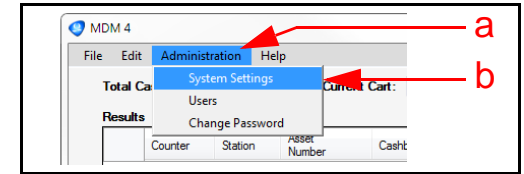

Figure 13 Select System Settings Menu 1
1. Click on the 'Administration' pull-down Menu on the MDM4 Main Screen (Figure 13 a), then select 'System Settings' (Figure 13 b).